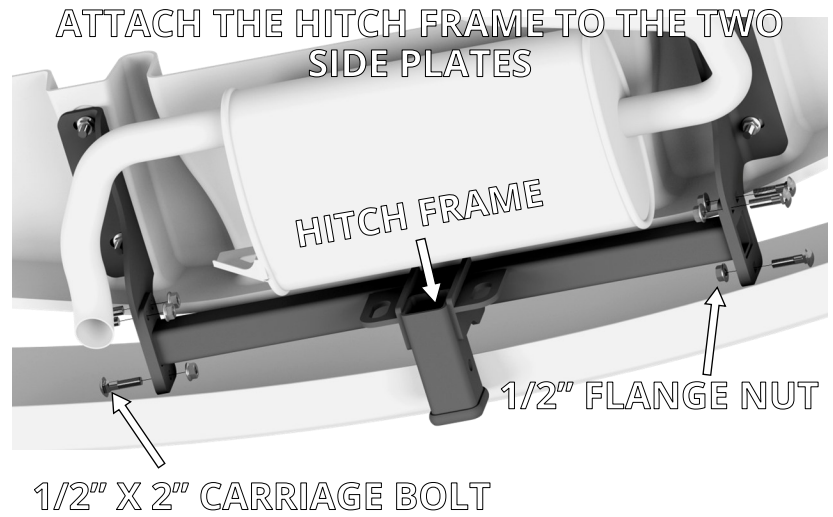

FIGURE B2: VIEW UNDER THE REAR OF THE VEHICLE
6. Raise the hitch frame between the side plates, as shown in Figure B2. Use six 1/2" x 2" carriage bolts and six 1/2" flange nuts to secure the hitch frame to the side plates.